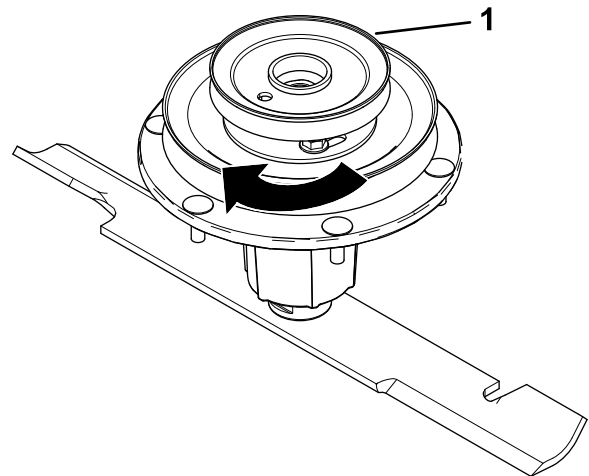

**Figure 9**
6. Align the new pulley assembly so that the openings fit over the nuts (Figure 9).